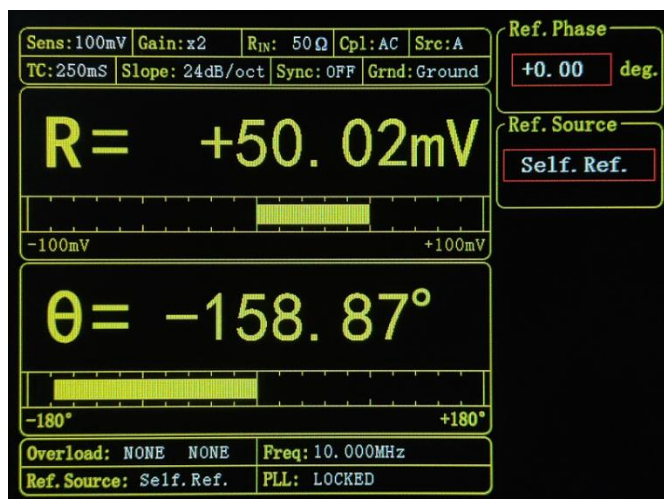

Fig.19 [REF/PHASE] Submenu-<Self.Ref>
- <Self.Ref> Self-reference mode. In this setting, OE2031 will use the signal of the input channel (A, A-B) also as the reference signal for phase locking, when the REF-IN interface is invalid. The interface at this point is shown in Figure 19. It should be noted that when the input signal amplitude is too small or the signal-to-noise ratio is low, the phase-locked loop may be unstable, and the <Self.Ref.> mode is not recommended at this time.